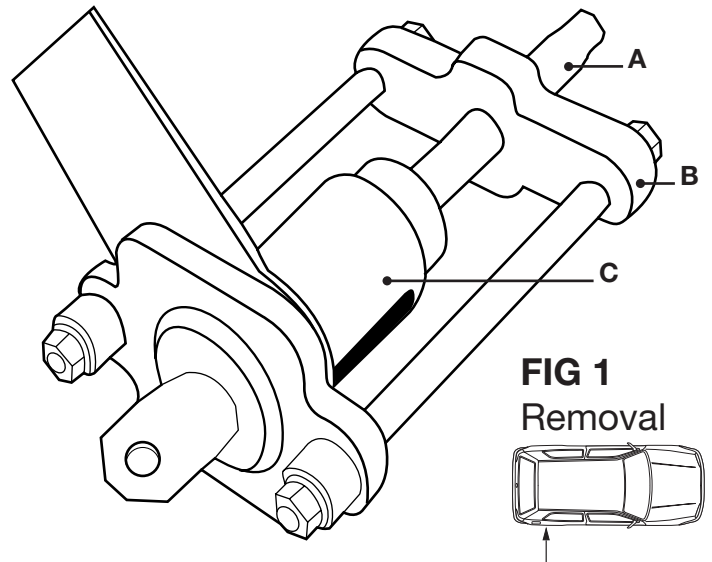

FIG 1
- 4 To remove the old bush, assemble tool as shown in (Fig 1) using removal sleeve.
- 5 The tool should be pushing in to the centre from the outside (Fig 1)